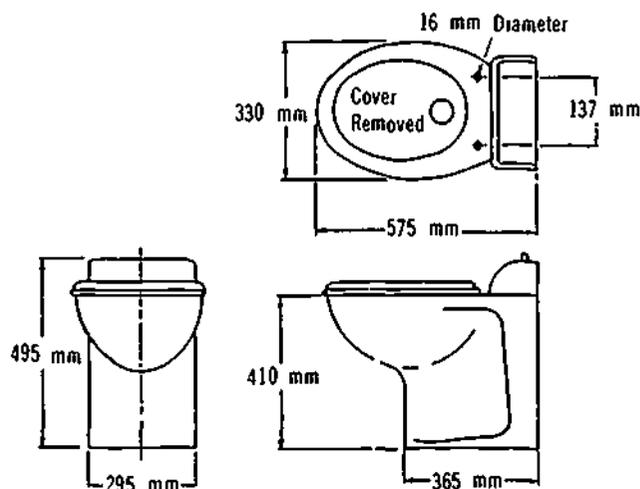

Figure 37-30. Vacuum Toilet
96. The vacuum toilet (Figure 37-30) is manufactured from vitreous china exclusively for the Electrolux vacuum sewerage system. It uses only one litre of water for a flushing, mainly to clean the china bowl and maintain a pool of water at the bottom. The vacuum toilet is operated by the vacuum within the system and takes in 0.1 m3 of air with each flush.